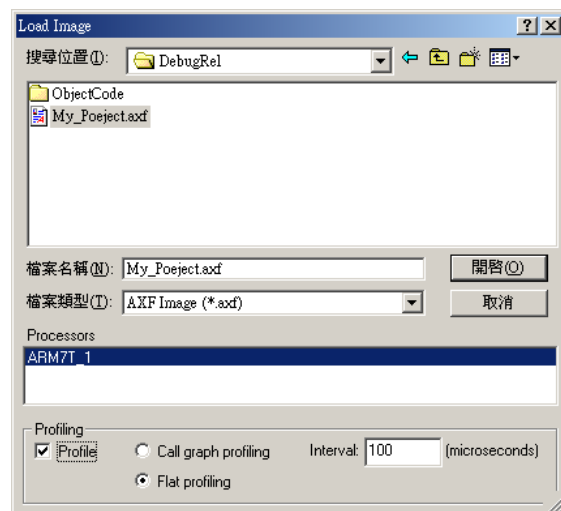

Figure 3. Load image with Profiling functionality.
- 1.2 Check the *Profile* checkbox, as shown in Figure 3.